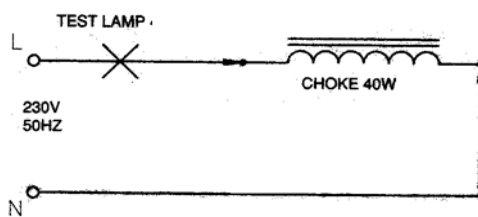

Fig. 2 Testing of Choke
1. Check the choke for its short and open circuit by using test lamp as shown in figure 2 and record the result in table 1.